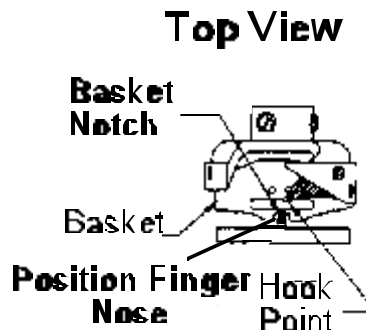

Figure 3
45. **Rotate** Hook Assembly until Basket Notch is aligned with Position Finger Nose. See *Figure 3*.